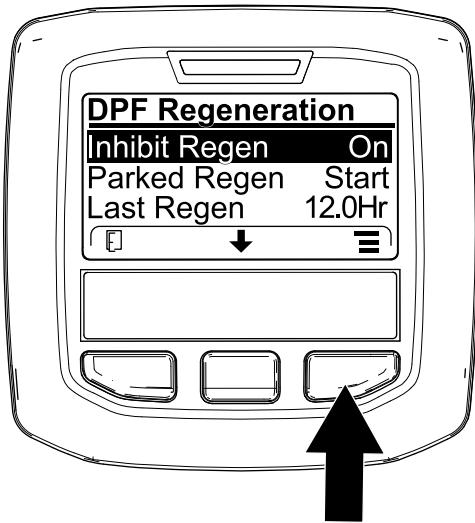
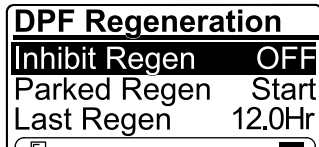

Figure 43
Figure 44
1. Access the DPF Regeneration menu, press the center button to scroll down to the INHIBIT REGEN option, and press the right button to select the Inhibit Regen entry (Figure 43).
- Press the right button to change the inhibit regeneration setting from On to Off (Figure 43) or from Off to On (Figure 44).